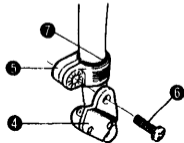

Fig. 8
- (2) Attach the sensor on the right side of the front fork. Use either the small or large sensor band, with 1mm- or the 2mm-thick rubber pad, whichever matches the tube diameter of your bicycle. (Fig. 8)